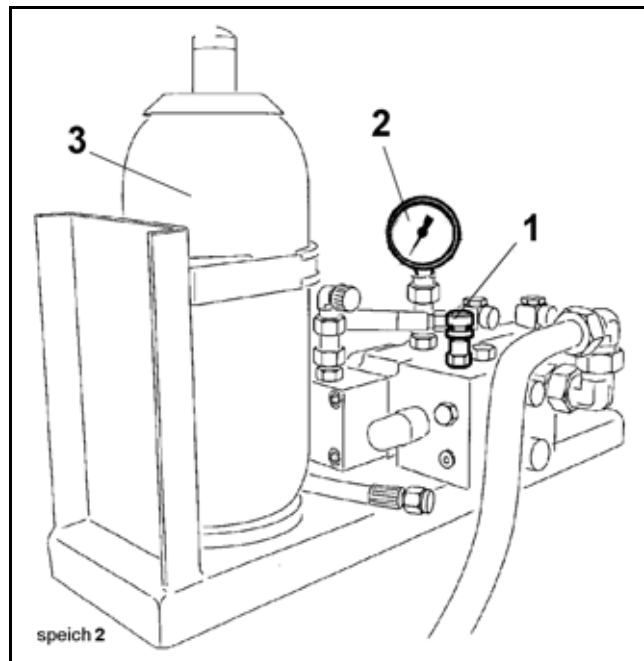
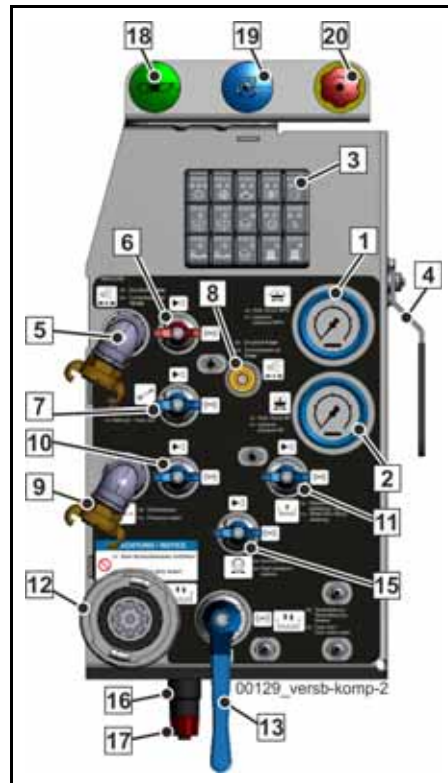

Fig. 292
Fig. 293 (2) Pressure gauge of the concrete pump / supply control
- Monitor the pressure gauge, e.g. (2) (**Fig. 292**) or (2) (**Fig. 293**),
Depending on the type of machine, the pressure gauge (2) is located directly on the accumulator safety block (Fig. 292) or at another position that is easy to see for the operator, e.g. (2) (Fig. 293).
- Open the manual accumulator breather valve (1) (**Fig. 292**).
- Read pressure gauge (2); it should be pointing to 0 bar.